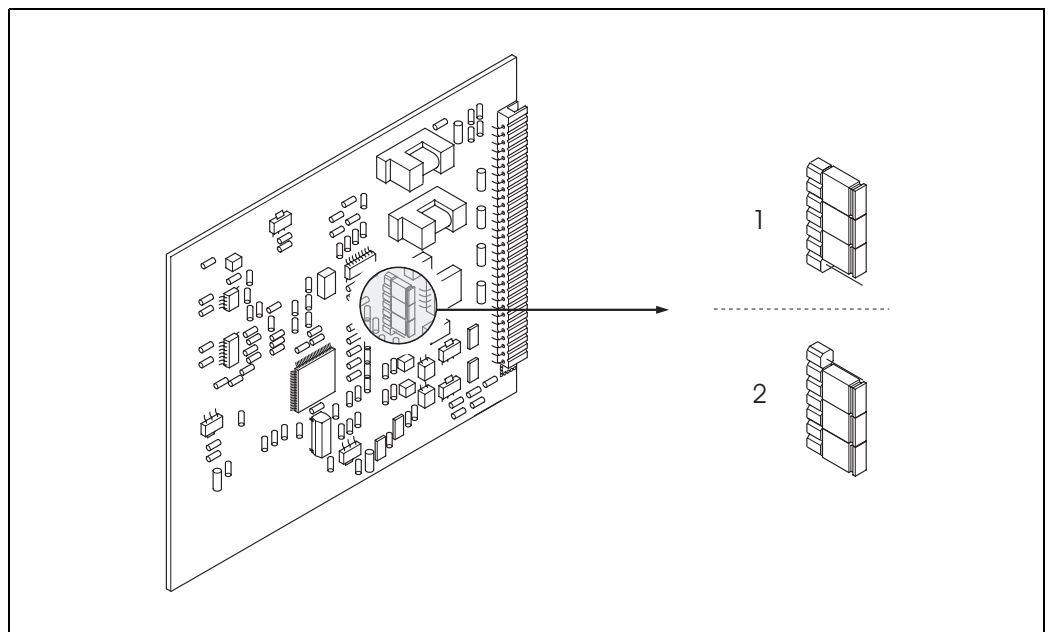

Fig. 31: Configuring the current output (I/O board)
3. Set the jumpers in accordance with → Fig. 31